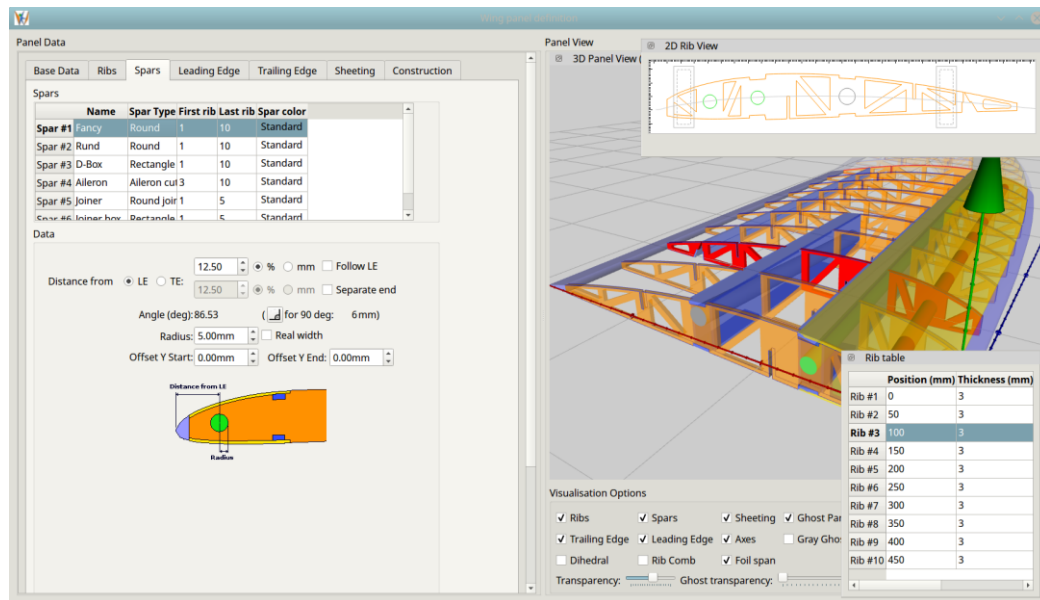

Figure 8: Teared-off 2D rib view and rib table
- Both the 2D rib view as well as the rib table can be teared-off by pressing the control button highlighted with the red asterisk (“*”). After tearing off these windows, you can freely position them anywhere on the screen. If you change into another view (e.g. “Spars”), the teared-off windows remain visible and active, as shown on Figure 8. Closing the panel edit dialog also docks these windows back into their original location.